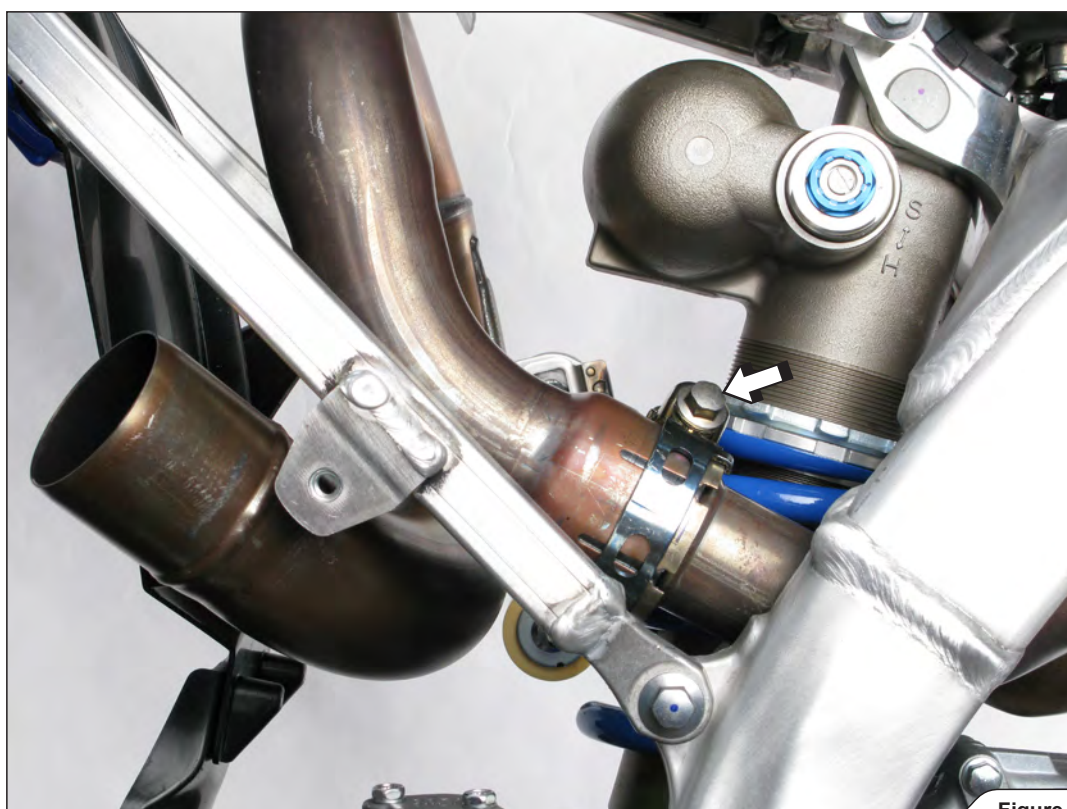

Figure 6
7. Loosen the metal clamp at the header tube - link-pipe joint and carefully remove the link-pipe off the motorcycle (Figure 6).